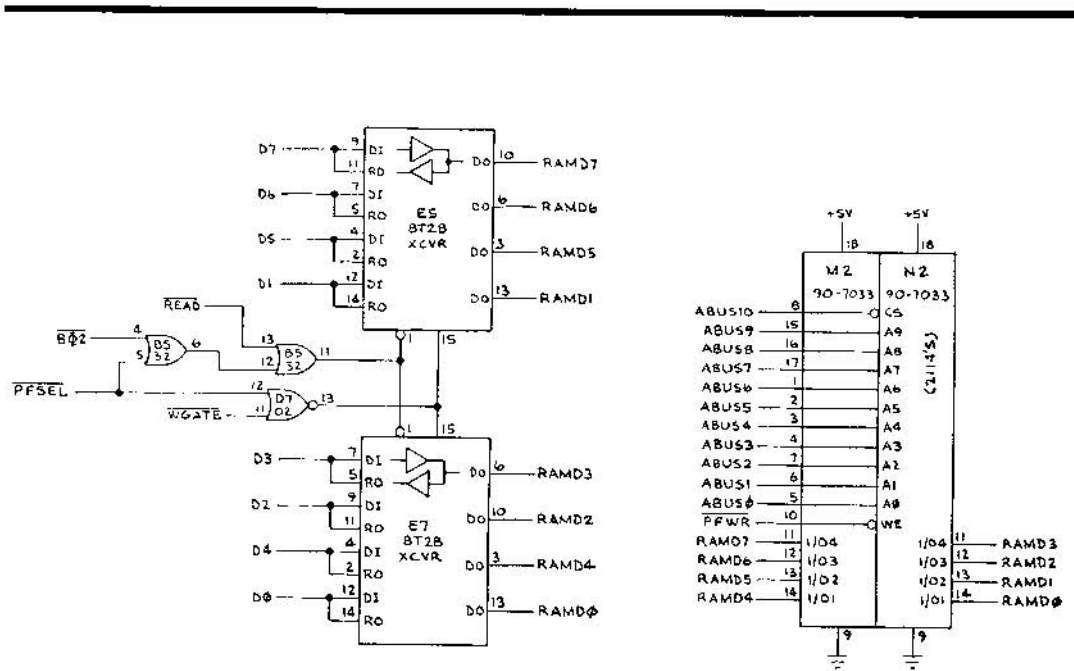

Figure 4-8 MPU RAM
3. RAM memory at locations N2 and M2 (see Figure 4-8).